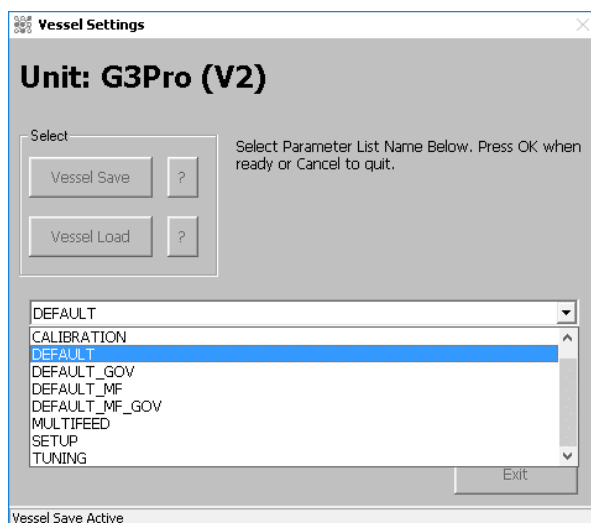

Figure 4.5. Selecting a category to use as save file.
4. Save/Configuration Files are handled in the same way. Select the category to be used for the save file (Figure 4.5). The “DEFAULT” category may be used.